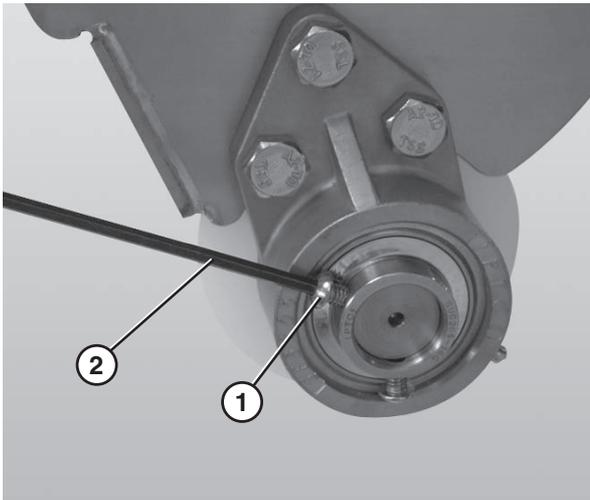

Figure 65
- Remove the bearing cover and loosen the 3 hole flange (Figure 65, item 1) with bearing fasteners using a hex wrench (Figure 65, item 2).